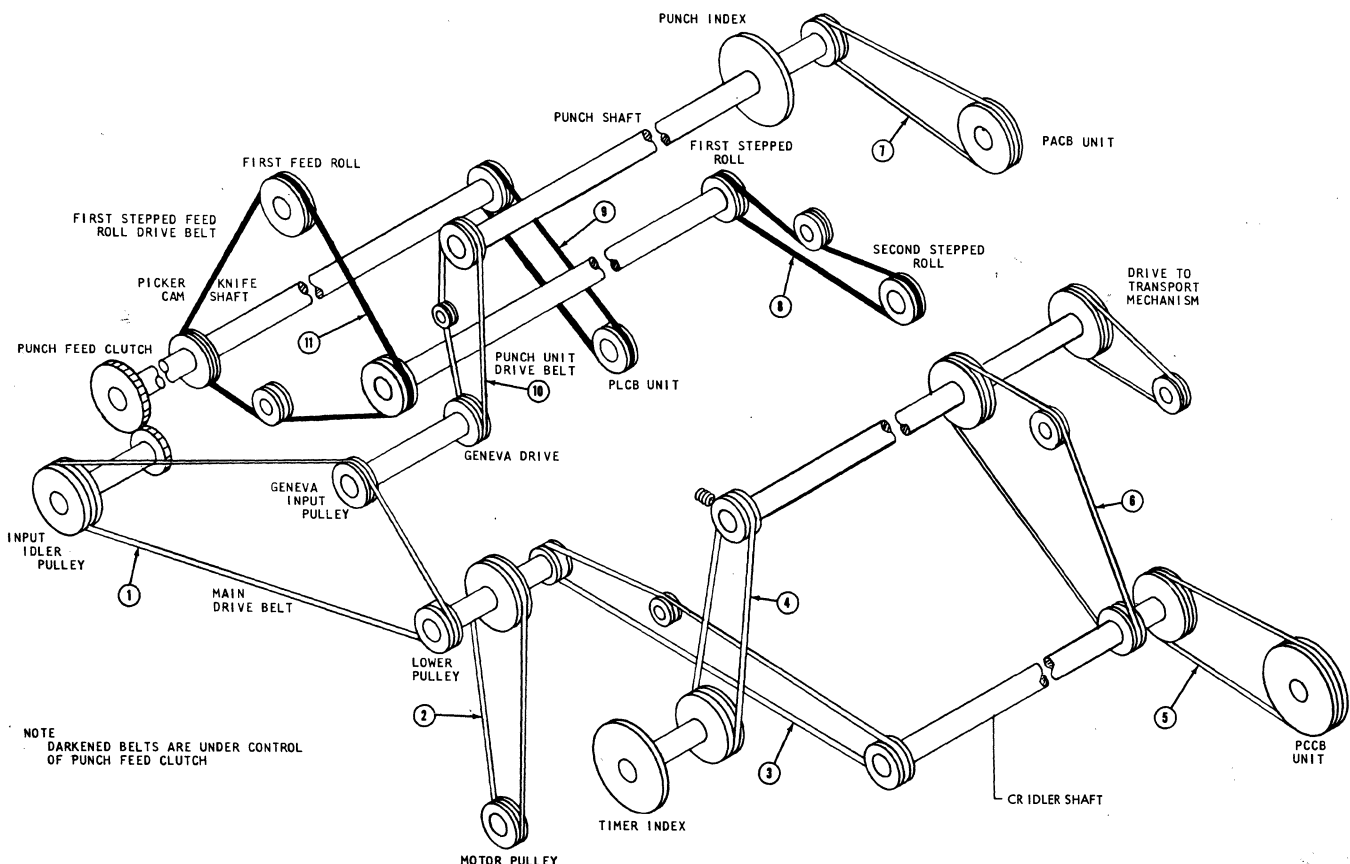

Figure 3-15. Punch Feed Timing Belts
Refer to Figures 3-15 and 3-16 for belt locations and units that must be removed in the event of belt breakage.
- a. Loosen timer index set screws (Figure 3-15).
1. Loosen timer index mounting screws (3) if more clearance is needed in order to replace belt.
- a. Loosen index pulley set screw (See Figure 3-15).